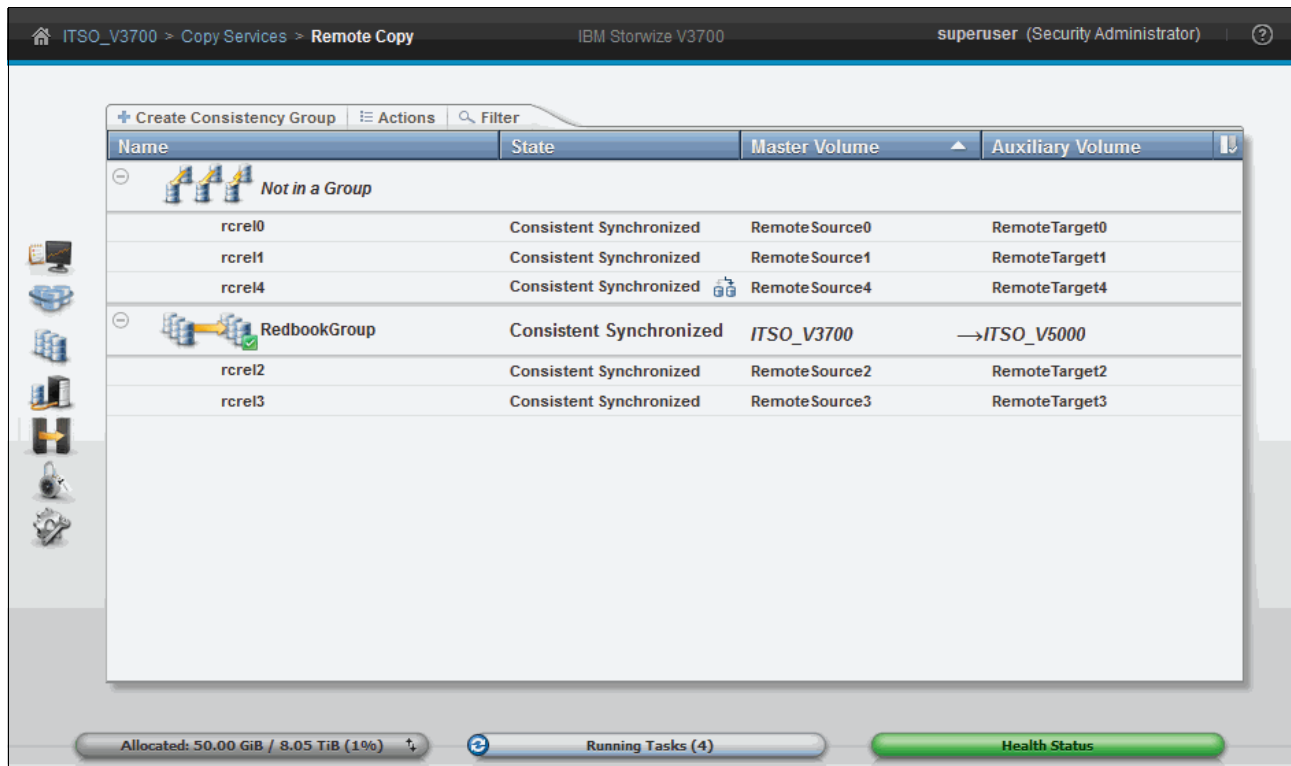

Figure 10-130 New Remote Consistency group created
- Click **Close** to close the task window, and the new consistency group is now shown in the GUI, as shown in Figure 10-130. Notice that the relationship that we tried to add, **Master Volume (RemoteSource4) → Auxiliary volume (RemoteTarget4)**, is not listed under the new consistency group, but remains under those **Not in a Group**.